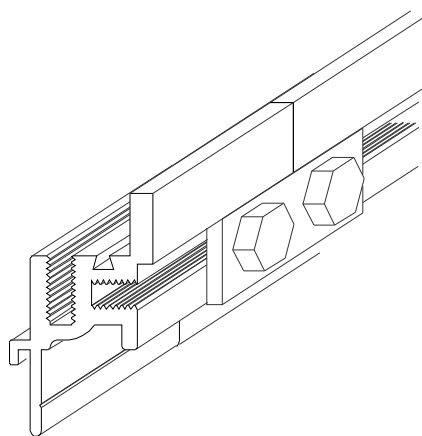

Figure 10
STEP 5. Attach the splice bar to the frame sections using the fasteners (part no. H1412S) provided by the factory (see Figure 10).